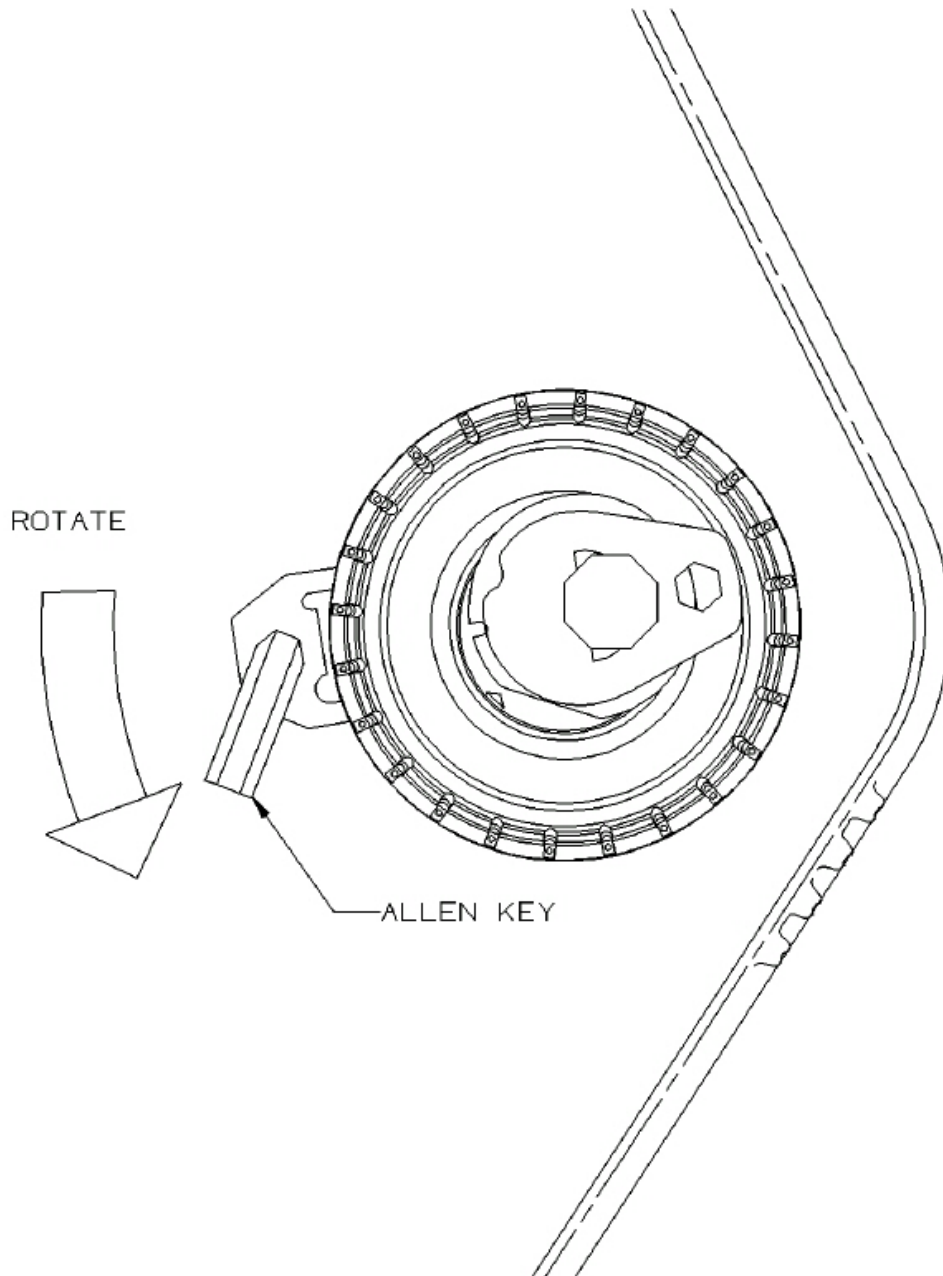
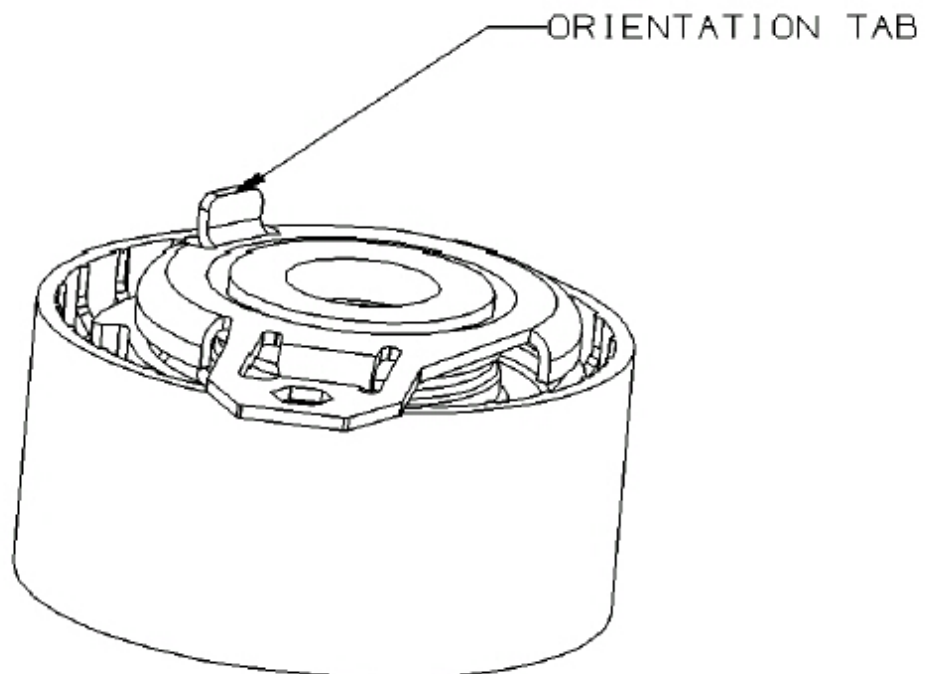

Figure 3: Tensioner rotated to align orientation tab with slot in block.
Figure 4: Orientation tab location.
6. Using the Allen Key rotate the rear plate of the tensioner counterclockwise (See Figure 3), moving the tensioner into the belt and aligning the orientation tab (See Figure 4) with the slot on the engine. Hand tighten the mounting bolt.